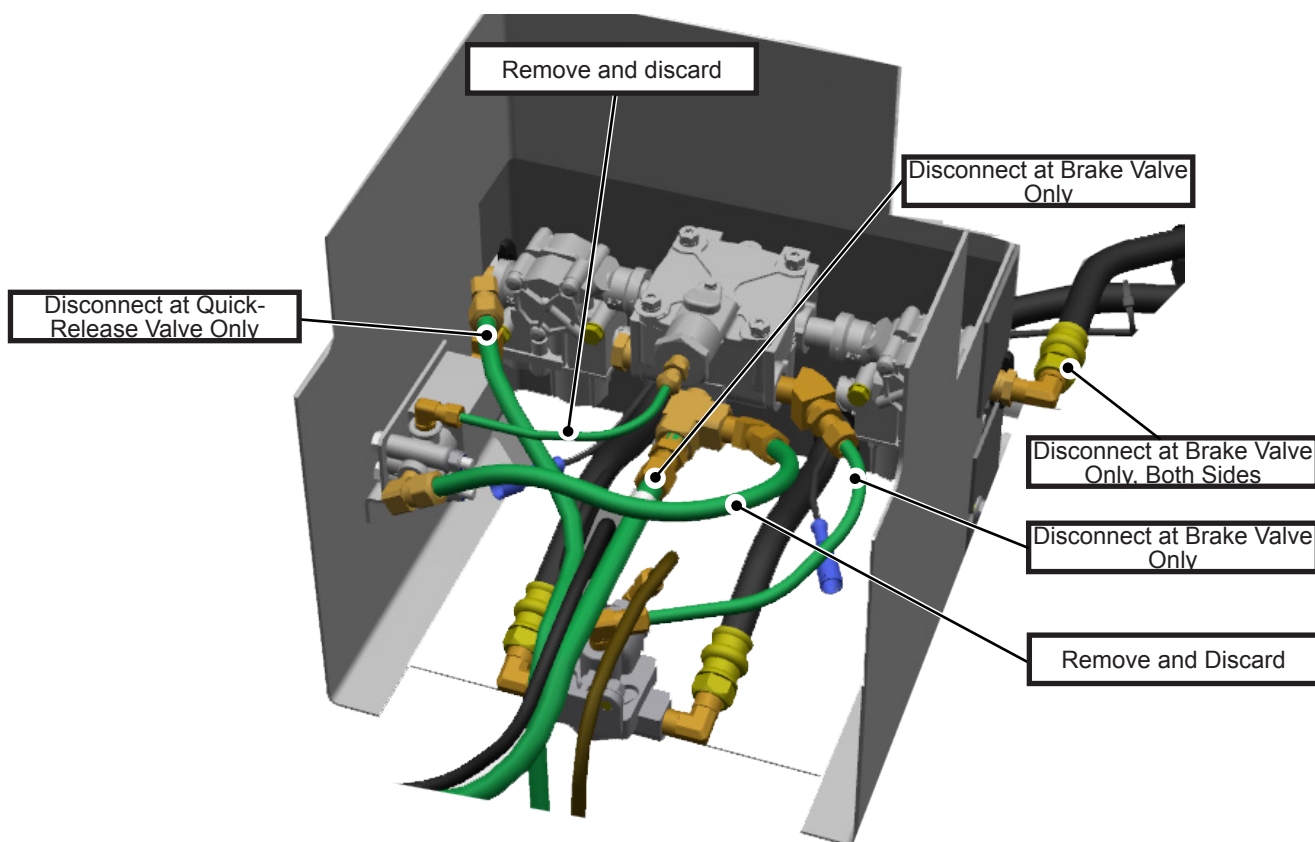

Figure 7 - Disconnect the Hoses
- 1.5. Disconnect the hoses. See Figure 7.